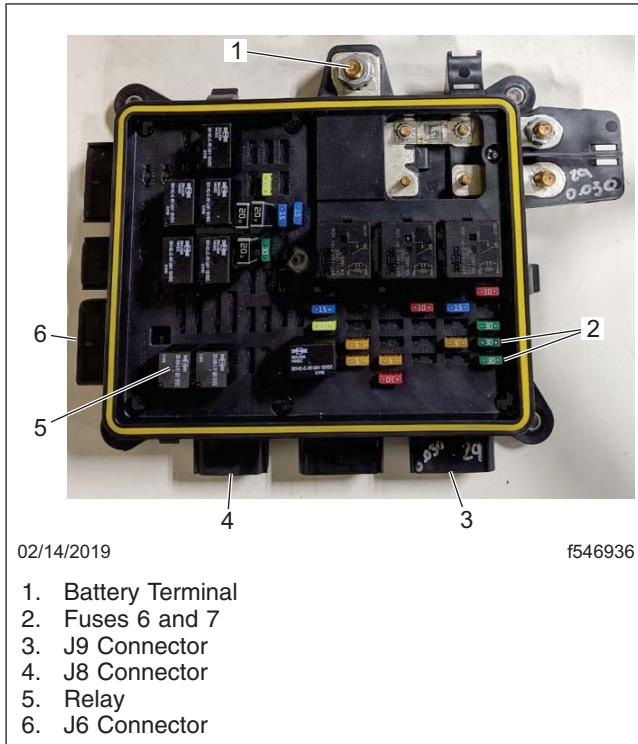

Fig. 2, PDM Components
**IMPORTANT:** The tester will work with a PDM connected to the vehicle or removed and placed on a work bench. If the PDM is being bench tested (PDM is not on the vehicle), ensure that 12V of power is supplied to the battery terminal. See Fig. 2, item 1.
5. Remove the PDM cover and locate the circuits to be tested. See Fig. 2.
6. Remove the two fuses and one relay from the PDM. See Fig. 2, items 2 and 5.
15. Remove all of the test box connectors and install the relay and fuses removed earlier. For relay and fuse locations see Fig. 2.